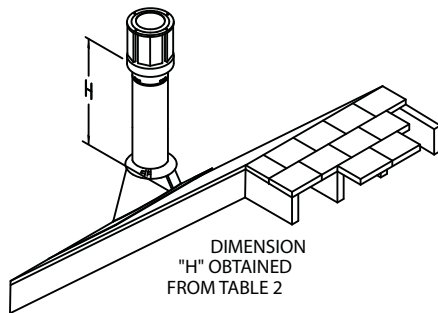

Figure 17
Step 8. Continue to add Pipe Sections until the height of the system (before adding the Cap) meets the minimum building code requirements as described in **(Table 3 and Fig. 17)**. Note that for steep roof pitches, the vent height must be increased. In high wind conditions, nearby trees, adjoining rooflines, steep pitched roofs, and other similar factors can result in poor draft, or down drafting. In these cases, increasing the vent height or switching to the High Wind Termination Cap may help to solve the problem.